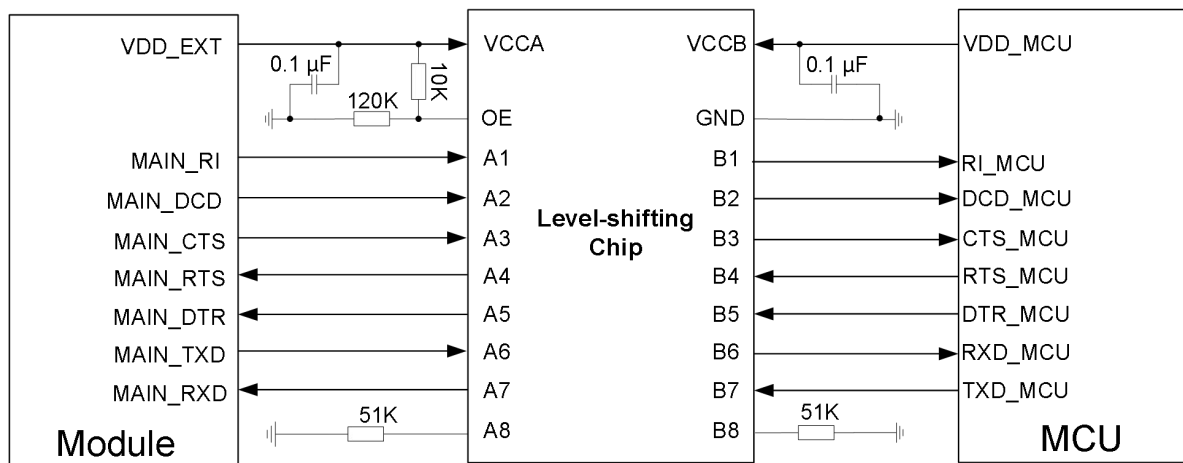
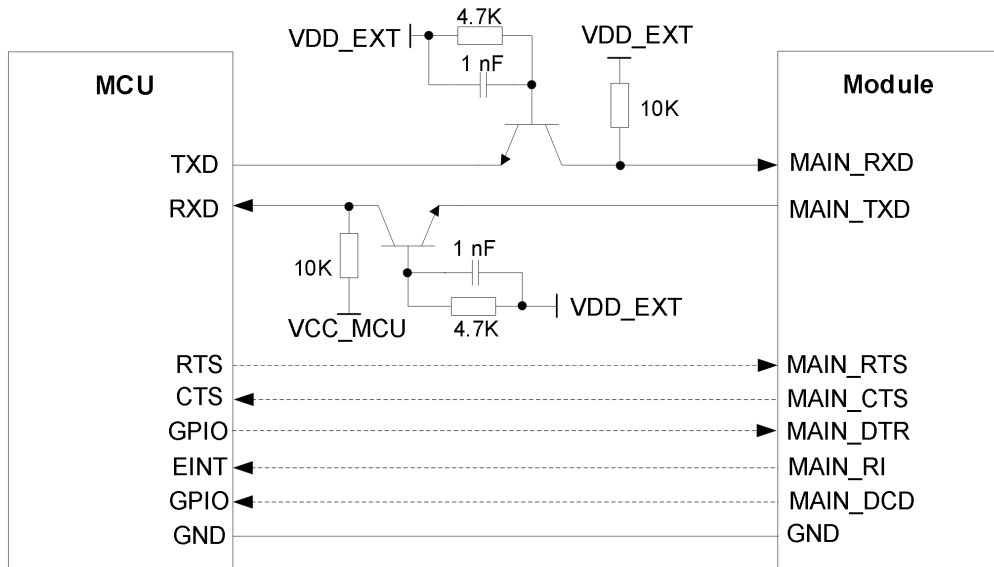

Figure 21: Reference Design of UART with a Level-shifting Chip (Main UART)
Figure 22: Reference Design of UART with Transistor Circuit (Main UART)
3. The level-shifting circuits (**Figure 21** and **Figure 22**) take the main UART as an example. The circuits of the debug UART are connected in the same way as the main UART.